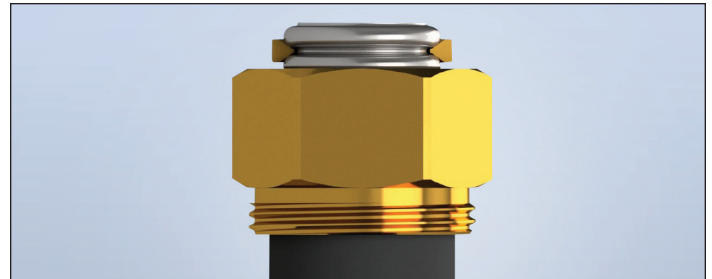

Figure: 1-6
6. Separate the 90-Degree Ball Valve from the Nut and remove the two Split Rings. Slide the Nut over the cut end until the Nut bottoms out against the jacket. Place two Split Rings into the first corrugation next to the tube cut then slide the Nut forward to trap the Split Rings (Figure 1-6).